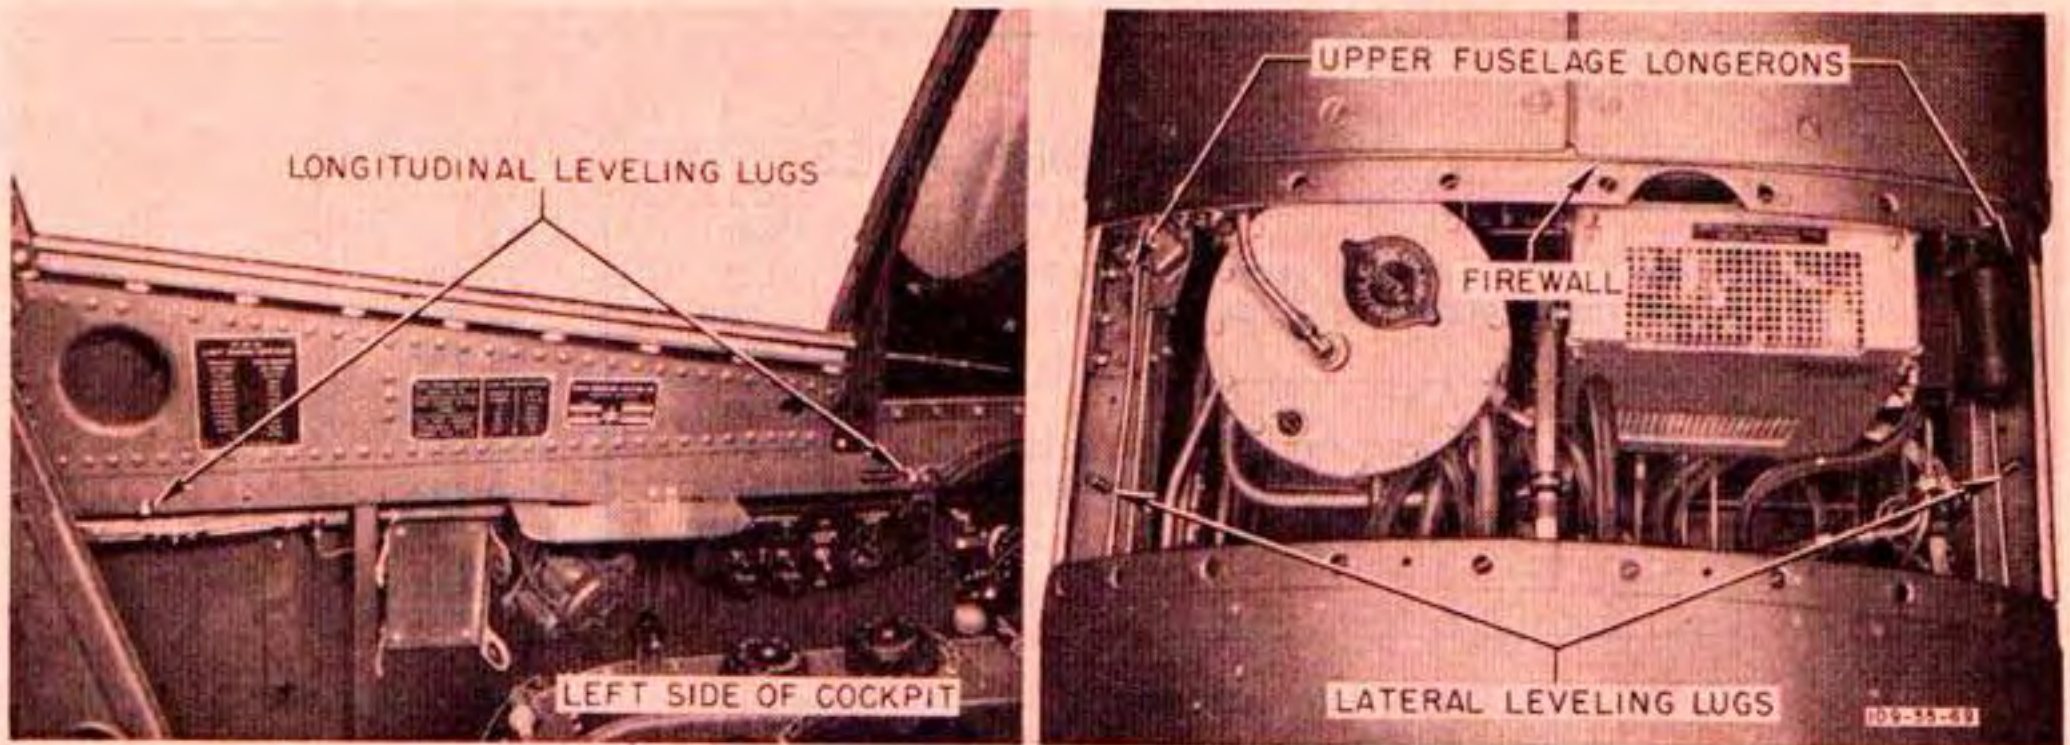

Figure 436—Airplane Leveling Lugs
(3) Level the airplane laterally by placing a leveling bar and bubble level across the leveling lugs on each upper fuselage longeron aft of the firewall (figure 436), and then raising or lowering one wing until the bubble is centered. Level the airplane longitudinally, using the two lugs on the left cockpit trim panel. (See figure 436.)